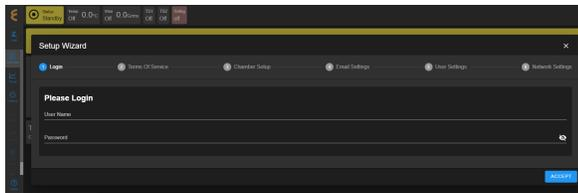

Figure 2.6: Login prompt in the Setup Wizard page.
12. The user interface of EWC appears in the Web browser as depicted in Figure 2.6.